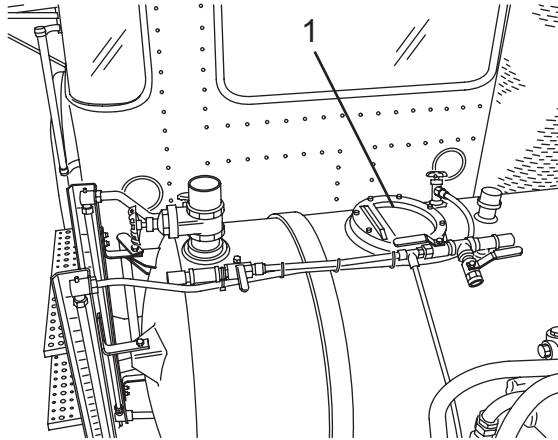

Figure 82
2. Place the water supply hose in the water tank flopper valve (Figure 82, Item 1).